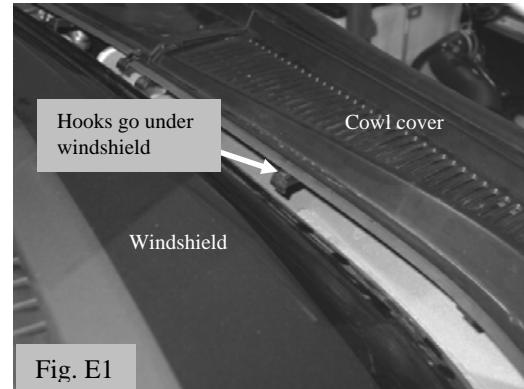

Fig. E1
- i. Be sure the hooks on the bottom of the cowl cover engage the bottom of the windshield. (Fig. E1)